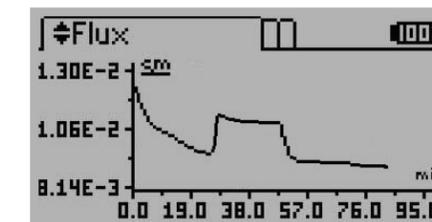

Figure 18 Flux screen
- **Flux Screen.** The Flux screen displays the flow rate of water flow through the infiltrometer on a graph updated every minute (Figure 18). The current measurement is indicated by a flashing dot.